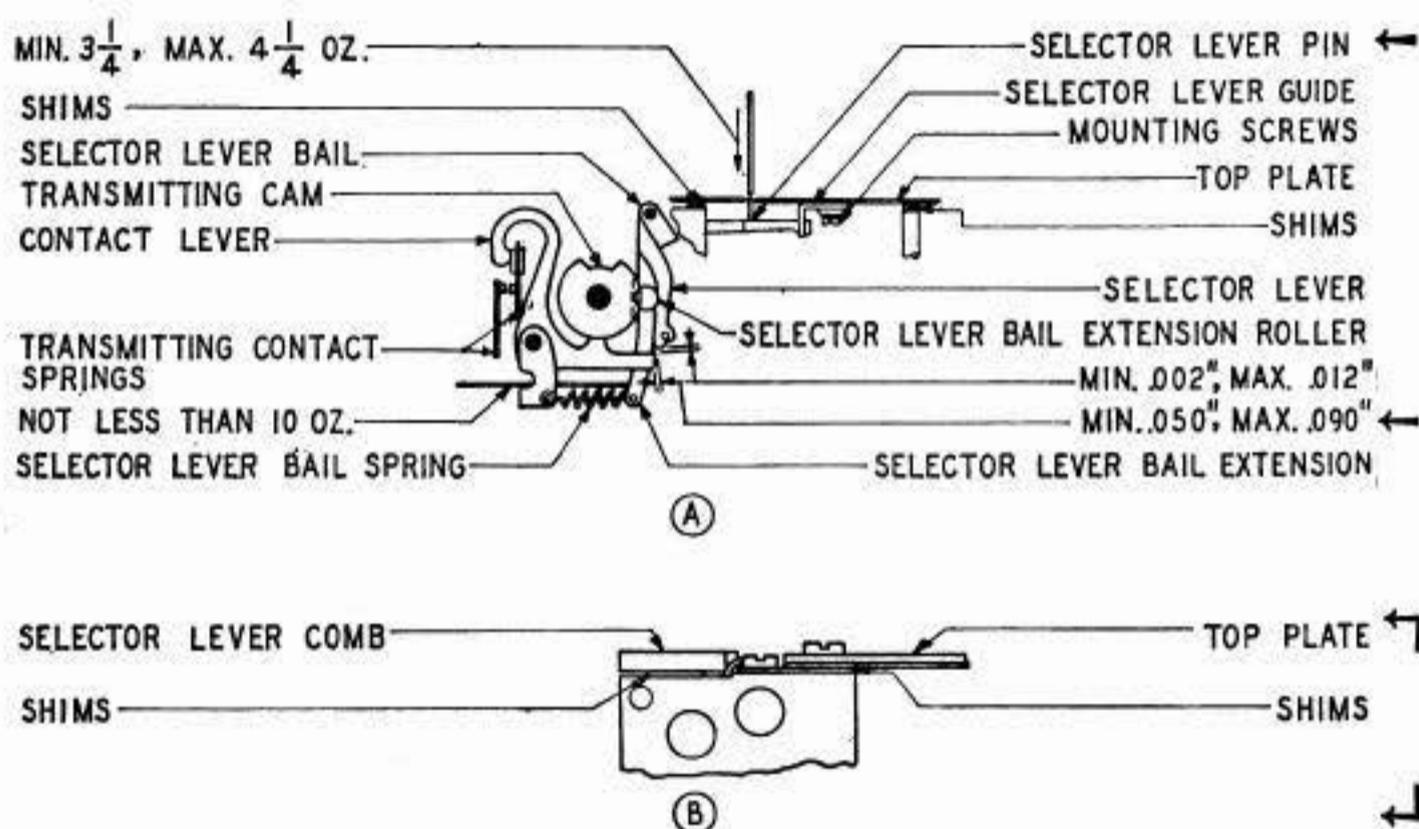

Fig. 7
3.22 **Selector-lever Comb:** There should be a clearance of Min .002", Max .012" as indicated in Fig 7(A), between the lower ends of the selector levers and the horizontal extensions of the contact levers, with the transmitting-cam cylinder in its stop position. **Fig. 7(A)**